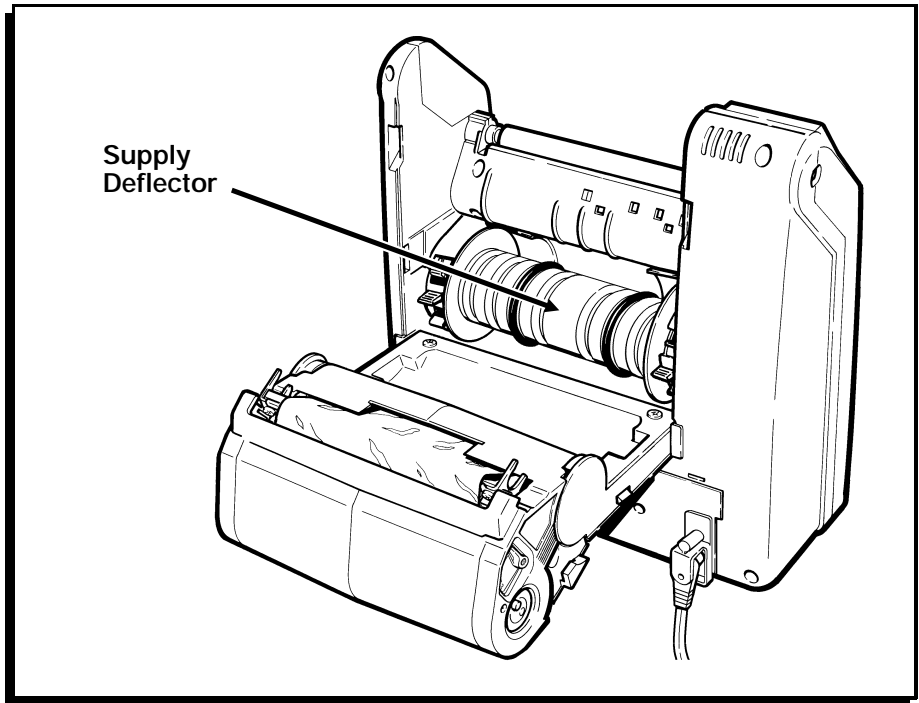

Figure 30
2. Lift one end of the supply deflector to remove it from the supply well. You may have to gently spread the supply holders apart to release the supply deflector. (Figure 30.)